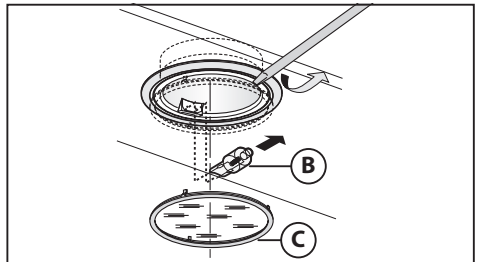

Fig.13
• **Replacing halogen light bulbs (Fig.13):**